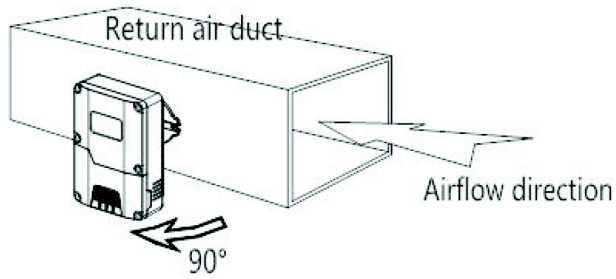

Fig. 9.
4. Rotate it 90 degrees clockwise to fix to complete installation (see Fig. 9).